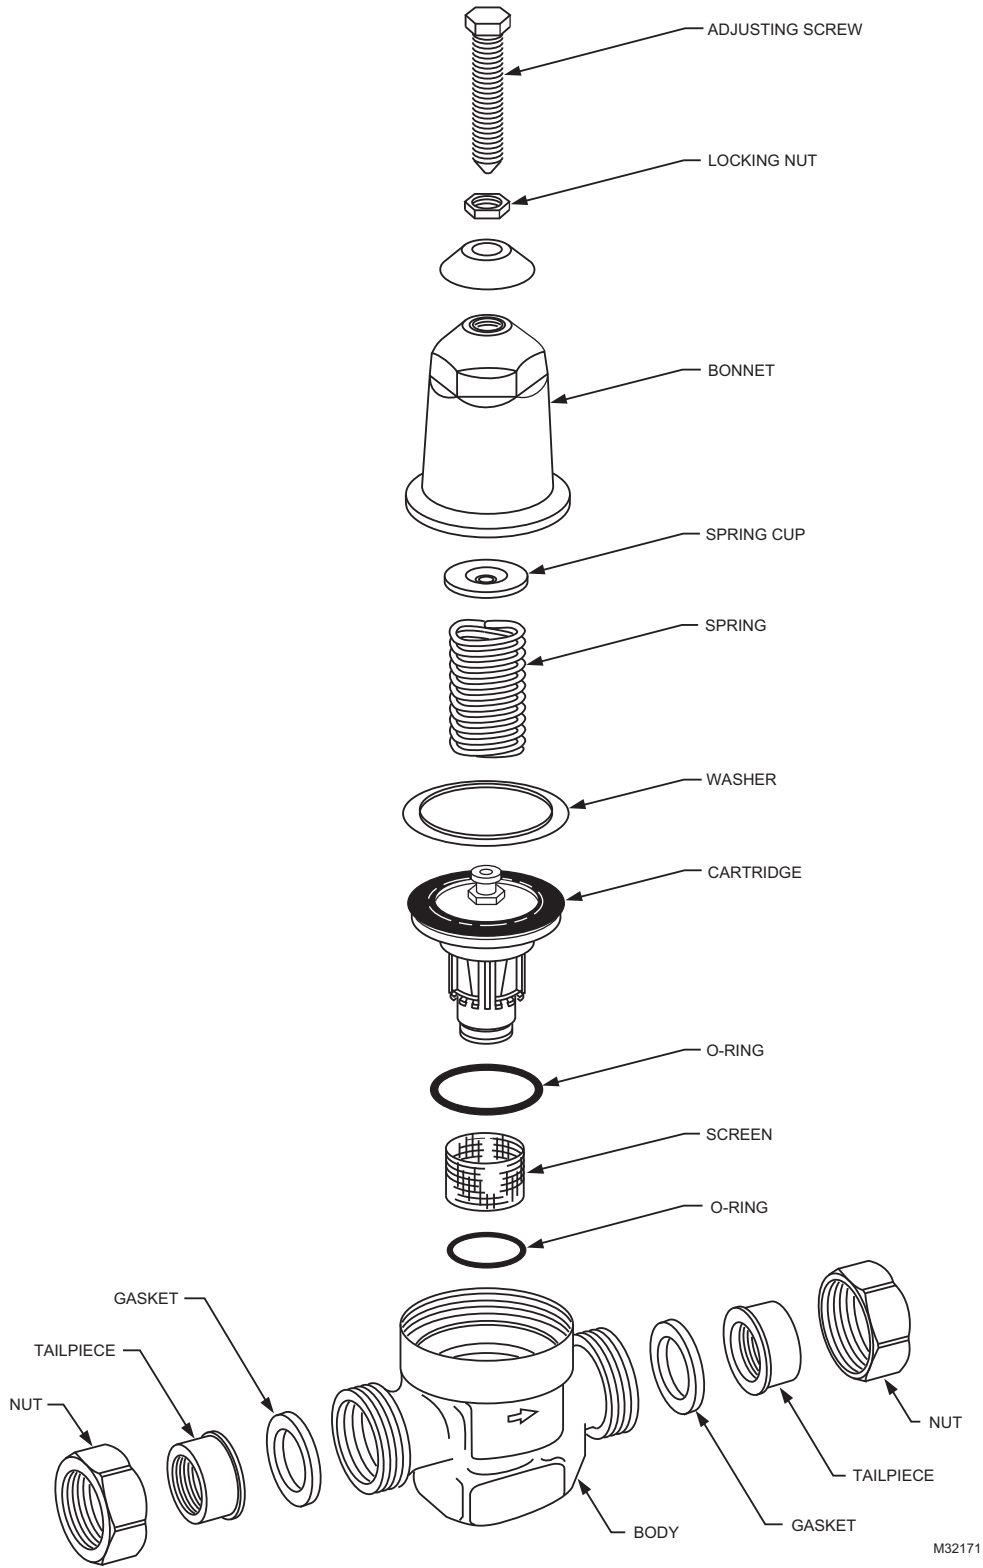

Fig. 4. D05T exploded view.
10. Replace the spring, spring cup and bonnet (see Fig. 4).